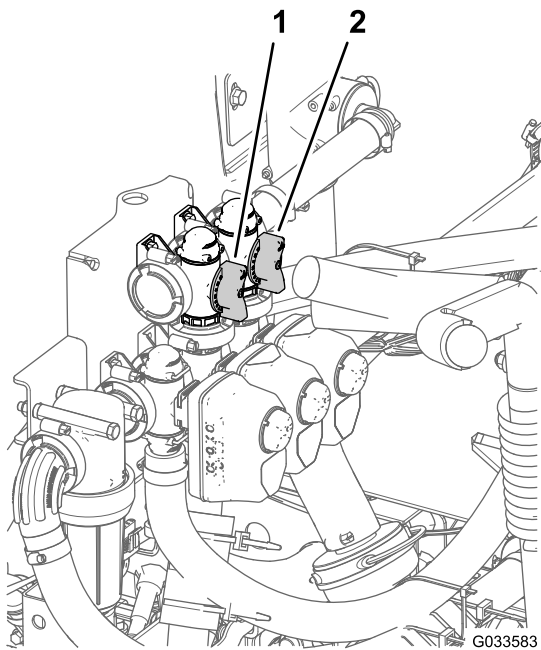

Figure 87
11. Adjust the agitation bypass valve (Figure 87) on the backside of the agitation valve until the pressure reading on the gauge is 6.9 bar (100 psi).
8. Adjust the master section-bypass handle to control the amount of agitation occurring in the tank (Figure 87).